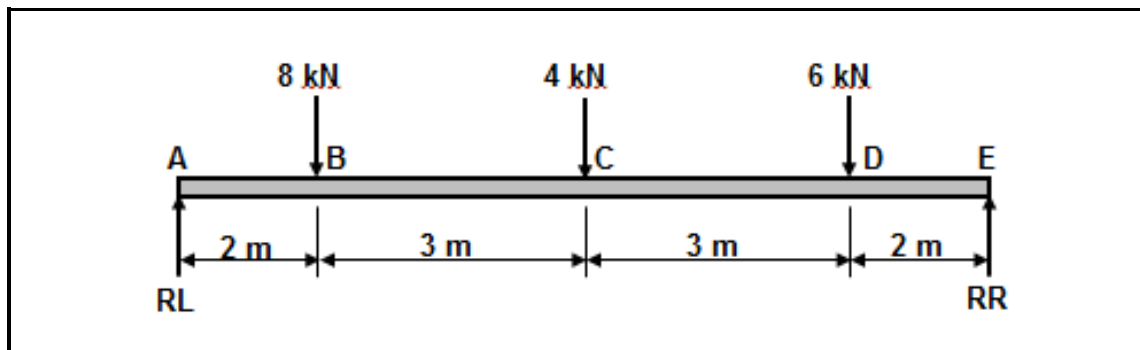

FIGURE 7.2
- 7.2 FIGURE 7.2 below shows a simply supported beam that is subjected to THREE point loads.